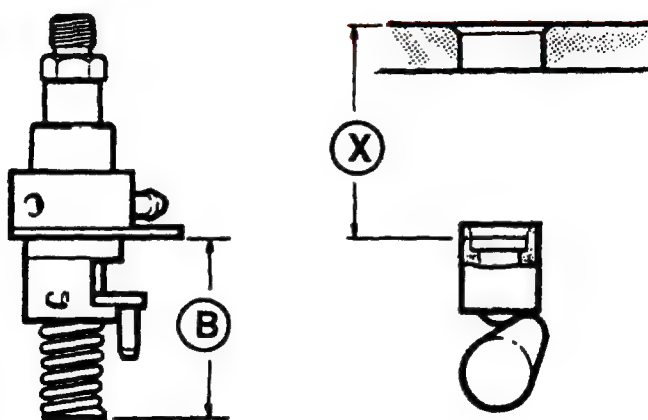

FIGURE 3-11. FUEL INJECTOR Pump Dimensions
- m. Using a depth gage, measure distance (X) from top face of crankcase to top of fuel pump tappet cap, refer to **FIGURE 3-11**. Subtract dimension (X) from dimension (B) 2.02 in. (51.196 mm) to obtain required thickness of shim pack to be installed between fuel injection pump plate and crankcase.